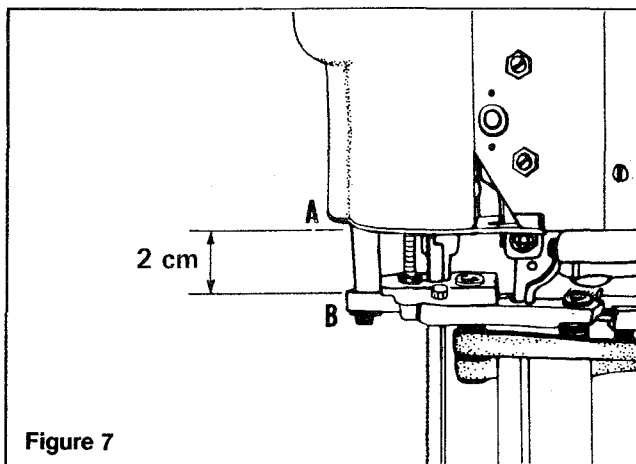

Figure 7
### (Figure 7)
- e) Fig. 7: Check clearance between lower Cover "A" and top of Gear Case "B." Maximum distance is  $25/32$ " (2 cm) when Brake is properly installed. If distance is greater, reset Brake as Presserfoot Leg A403 will not operate. FlexiBands A386 must not touch Blade A574.